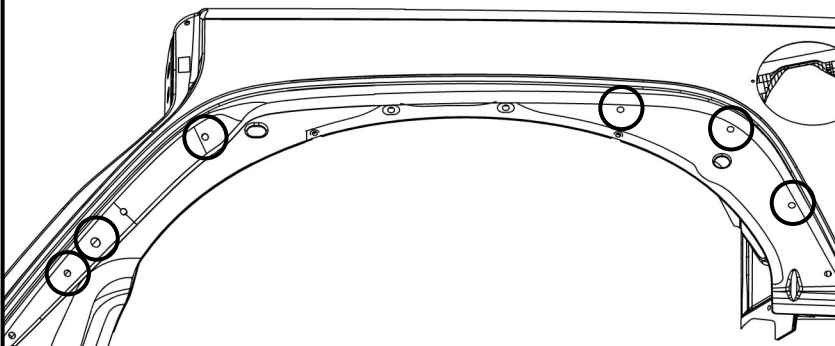

Figure 4
4. Drill the pre-existing holes along the vehicle fender area to prepare them for riv-certs. Use a 25/64" drill bit. **See Figure 4.** **Note:** Holes accessible from the rear do not need to be drilled.
Repeat (3) Steps for every drilled hole from Figure 4.